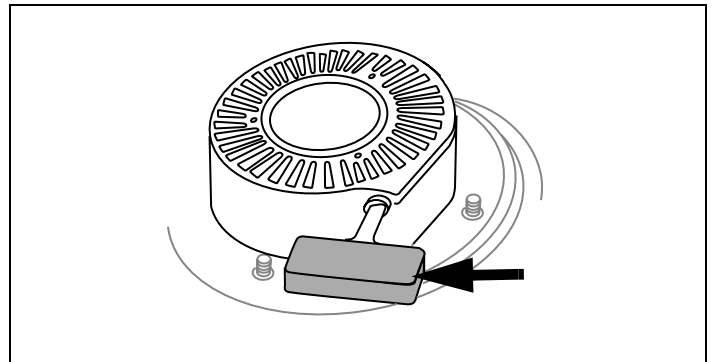

Figure 12. Recoil Starter Cord Handle
3. Grasp recoil starter cord handle. See Figure 12.